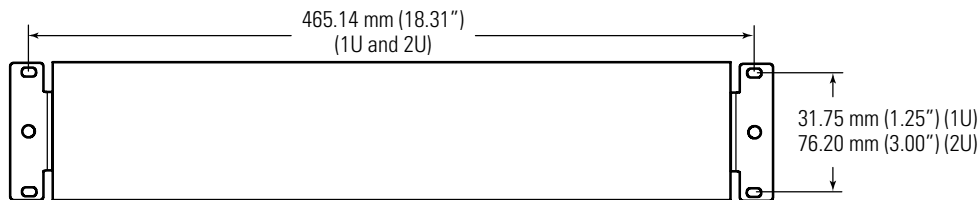

Figure 11. Wall-Mount Template (1U and 2U)
1. Locate an area on a wall with a power outlet within reach of the ePDU's power cord. Refer to the template shown in Figure 11 to mark the locations for the mounting fasteners.